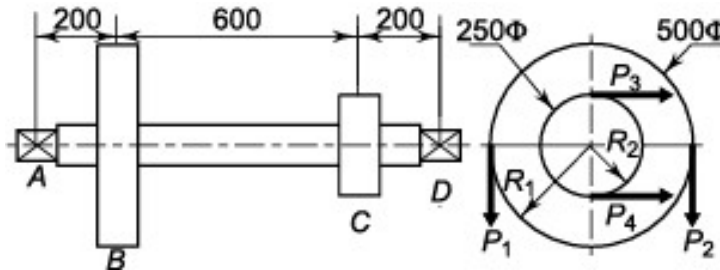

Fig. 3
Q.4 The layout of a transmission shaft carrying two pulleys, B and C, and supported on bearings A and D, is shown in Fig. 3. Power is supplied to the shaft by means of a vertical belt on the pulley B, which is then transmitted to the pulley C carrying a horizontal belt. The maximum tension in the belt on the pulley B is 2.5 kN. The angle of wrap for both the pulleys is 180°, and the coefficient of friction is 0.24. The shaft is made of plain carbon steel 30C8 (S_{yt} = 400 N/mm²), and the factor of safety is 3. Determine the shaft diameter on the strength basis.